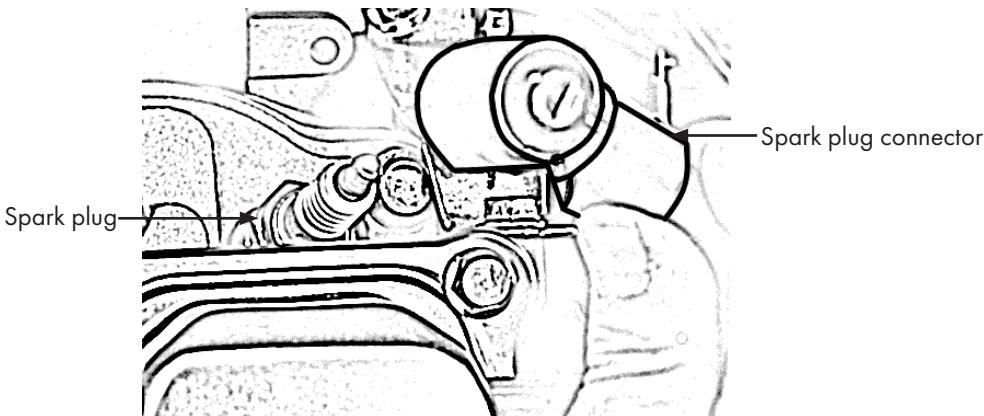

Figure 17
- Remove the spark plug cap, Fig. 17.